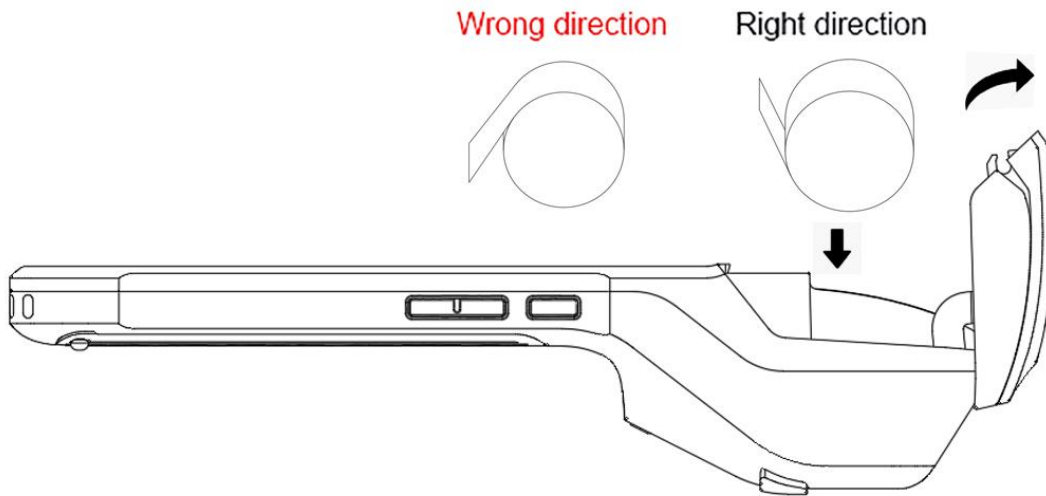

Figure 1-2
- Cover the paper compartment cover, the paper installation is complete figure (Figure 1-2).